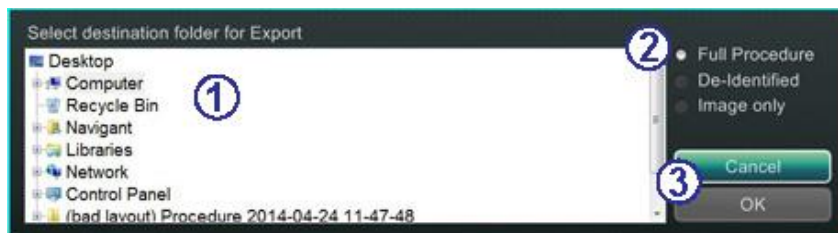

Figure 38. Select destination folder for Export window
Export destination guide (Figure 38)
- ① **Export window.** The Select destination folder for the Export window (**Figure 38**) is a Windows browser. Navigate to the drive or directory where the exported procedure file is to be saved. The file may be saved to a flash drive or a CD.
- ② **Export level.** Select the level of export for your procedure:
- ③ **Close buttons.** Click **OK** to export or **Cancel** to cancel the export.